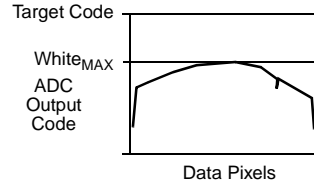

Figure 10: Finding WhiteMAX
- Find the maximum white pixel value of the image data (WhiteMAX) for each color (Figure 10).